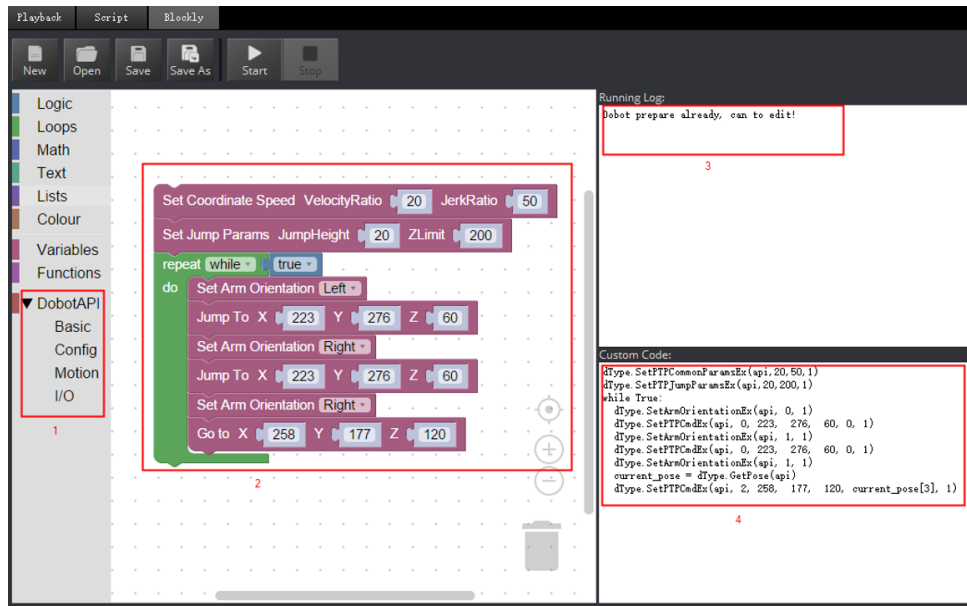

Figure 6.15 Blockly graphic programming
Step 2 Drag the blockly module on the left pane of the **Blockly** page to program, as shown in Figure 6.15.